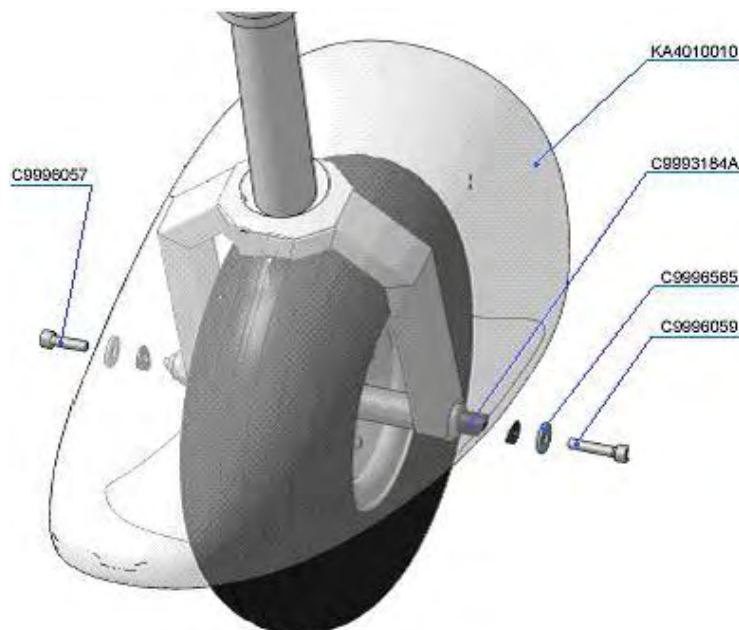
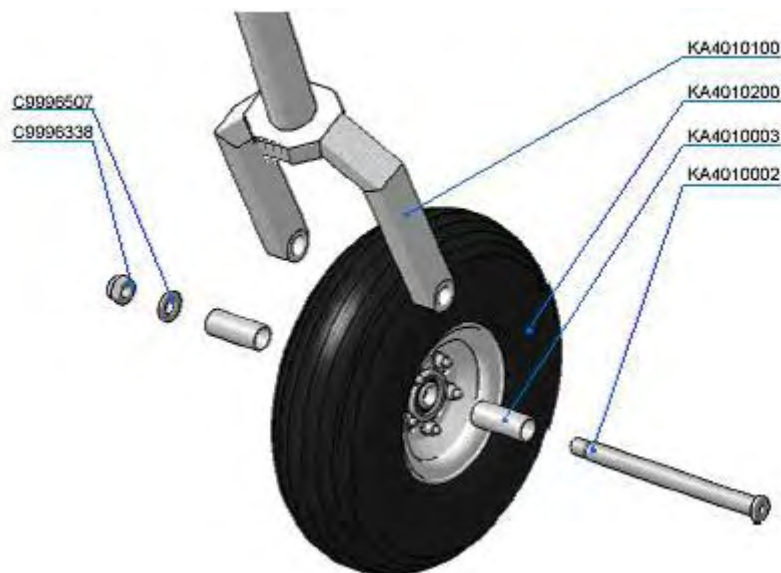

Fig. 5
Fig. 6
- 4) Unscrew the nut C9996338 (Self-locking nut DIN 985-M12, regular), Fig. 6, by two wrenches 17x19 and remove the axle KA4010002 (Wheel axle).
- 10) Wheel installation is reverse to removal. Replace C9996338 (Self-locking nut DIN 985-M12), Fig. 6, to a new one. Secure the screws C9996059 (Bolt DIN 912 M6x30-8.8), Fig. 5, by lock liquid of middle strength Loctite 243.